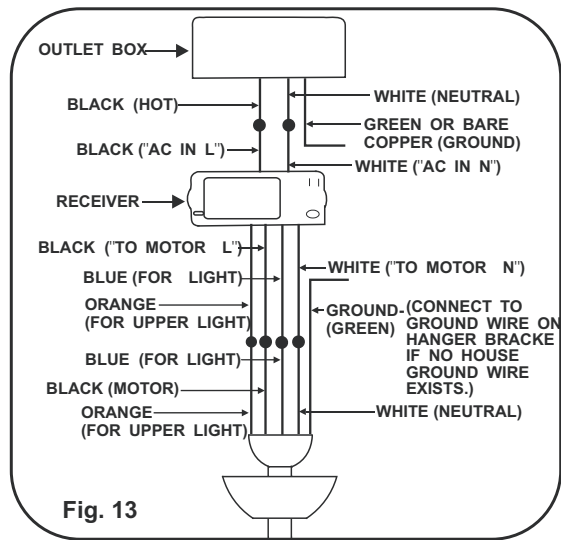

Fig. 13
**NOTE:** If your ceiling fan features an UP Light: Connect the ORANGE wire from the fan to the ORANGE wire marked "For Up Light" from the Receiver. Otherwise disregard this step and proceed to secure all wire connections with the plastic wire nuts provided.(Fig.13)
**Step 3. Receiver to House Supply Wires Electrical connections:** Connect the **WHITE** wire(Neutral) from the outlet box to the **WHITE** wire marked "AC in N" from the receiver. Connect the **BLACK** wire(Hot) from the outlet box to the **BLACK** wire marked "AC in L" from the receiver. Secure all wire connections with the plastic wire nuts provided.(Fig.13)
**Step 4.** If your outlet box has a **GROUND** wire (Green or Bare Copper) connect this wire to the Hanger Ball and Hanger Bracket Ground wires. If your outlet box does not have a Ground Wire, then connect the Hanger Ball and Hanger Bracket Ground Wire together. Secure wire connection with the plastic wire nut provided.(Fig. 13)